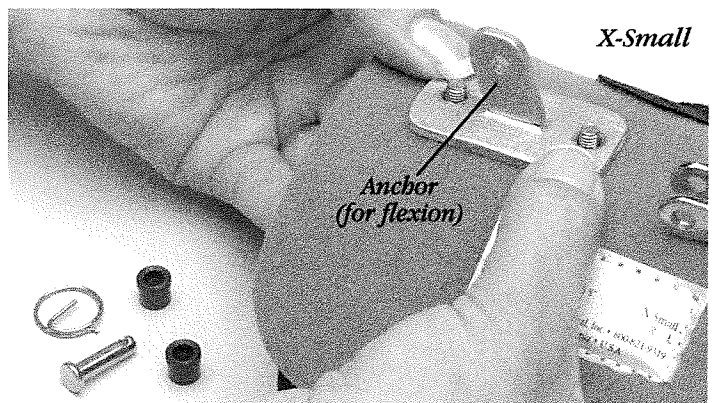

Figure 2
- For the **x-small** orthosis, unclip the forearm end of the turnbuckle and remove both hex nuts from the screws in the forearm anchor. Remove the anchor without taking the screws out. Turn the piece around so its extension angles away from the hand section (Figure 2). Tighten the nuts and reattach the turnbuckle.